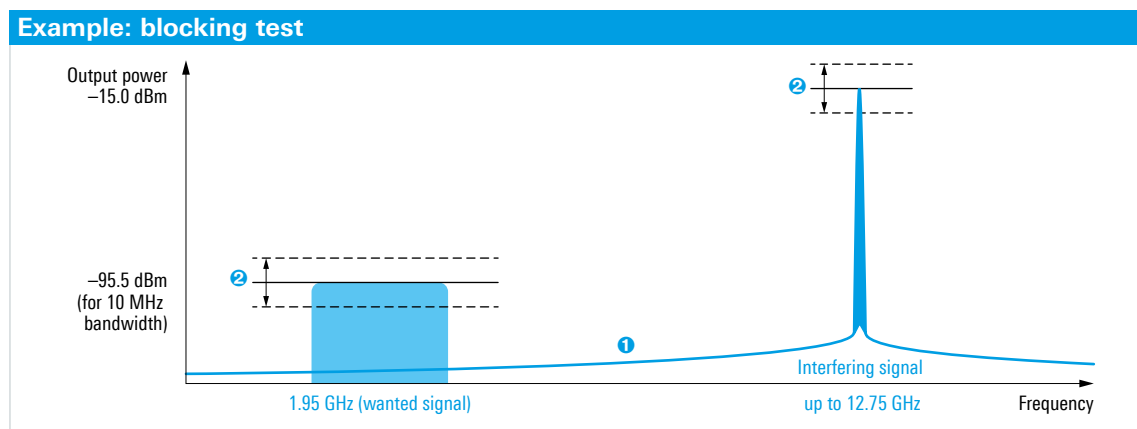

Fig. 3: The low wideband noise (❶) and the high level accuracy (❷) of the R&S®SMW200A yield accurate and reproducible measurement results.
Telecommunications standards specify comprehensive conformance tests. One of these is the blocking test which requires a vector-modulated wanted signal as well as a vector-modulated interfering signal or a CW interferer. For LTE tests (Release 11, 3GPP TS 36.141), for example, the wanted signal is around 2 GHz, however the interfering signal can be up to 12.75 GHz (Fig. 3). In discrete test setups, two generators are required for this test. However, only one R&S®SMW200A is necessary because it can be equipped with up to two RF paths.
For these tests, the signal quality is just as important as the multitude of functions. An excellent adjacent channel leakage ratio (ACLR) is vital for a vector-modulated interfering signal whose frequency is close to the wanted signal. Extremely low wideband noise (❶) is required for a CW interferer at 12.75 GHz as shown in the example in Fig. 3. At the same time, the quality of the wanted and interfering signals must also be high (e.g. level accuracy; ❷) and the signal content must be precisely specified. These are signal scenarios where the correct configuration and signal quality will have a decisive impact on the accuracy and reproducibility of measurement results.